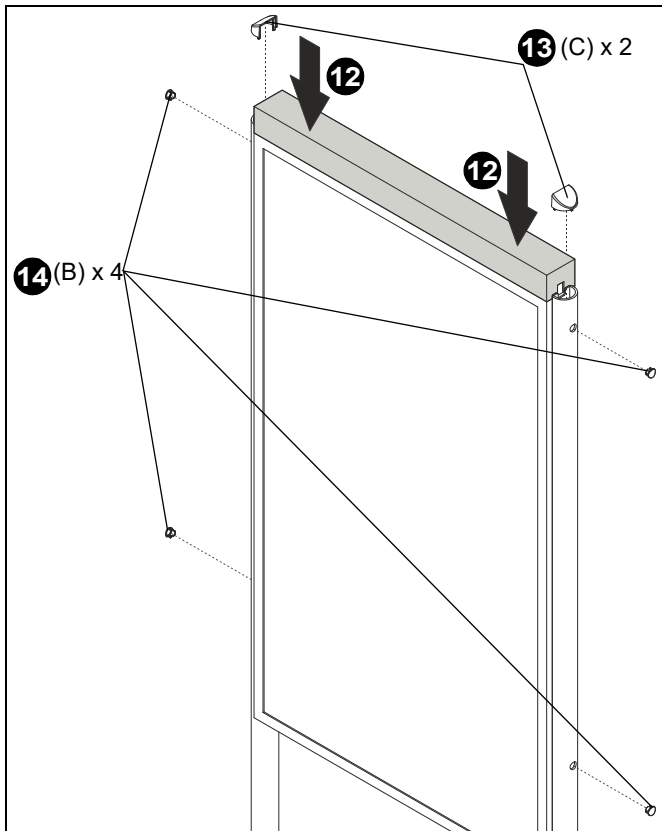

Figure 6
12. Install top cover (included with television) onto display. (See Figure 6)
13. Snap two pipe caps (C) into side covers. (See Figure 6)
14. Snap four bolt hole caps (B) into holes on side covers. (See Figure 6)